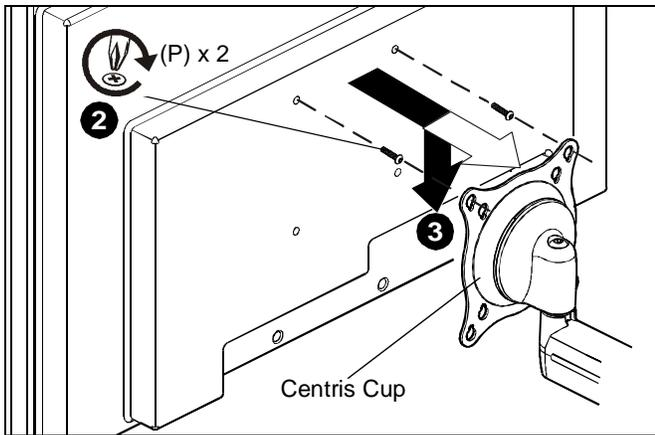

Figure 6
2. Using Phillips screwdriver, carefully install two M4x12mm screws (P) into the *upper* mounting holes on the display. Thread screws completely into display, then back out 3 complete turns. (See Figure 6)
3. Align two M4x12mm Phillips machine screws (P) (installed on the back of the display in the previous step) with the two top teardrop mounting holes on the Centris cup. (See Figure 6)